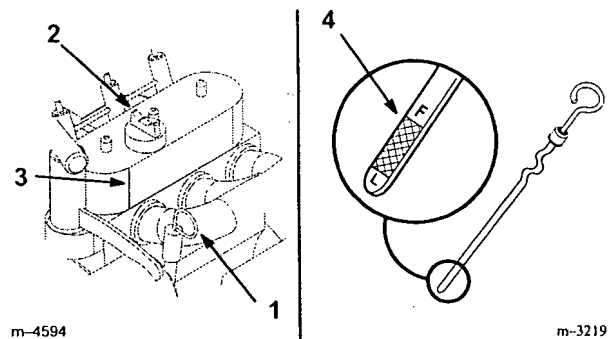

Figure 7
4. Clean around the oil dipstick (Fig. 7).
5. Pull out the dipstick and wipe the metal end clean (Fig. 7).
6. Slide the dipstick fully into the dipstick tube (Fig. 7).
8. If the oil level is low, clean around the oil filler cap and remove the cap (Fig. 7).